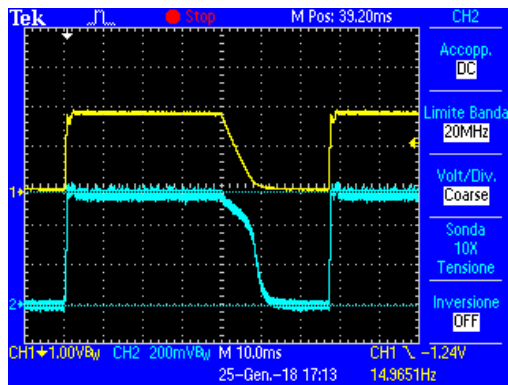

Fig. 5a
- Check that the resulting values are correct respect values in the table below and then check the wave-length by comparing it to the typical wave-lengths shown in figures 5a (60 kV) and 5b (100 kV) below.